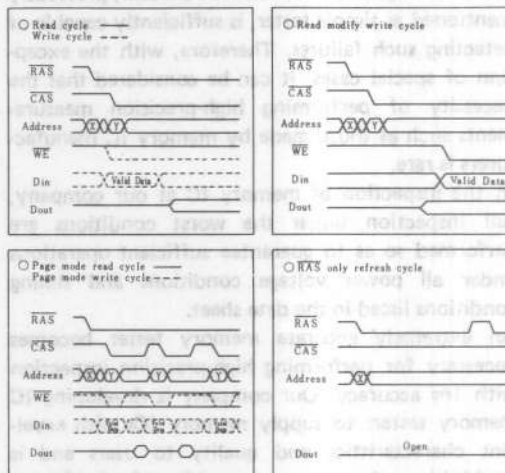

Fig. 2 Operating modes of Dynamic RAMs
2. Operation Modes (See Fig. 2)